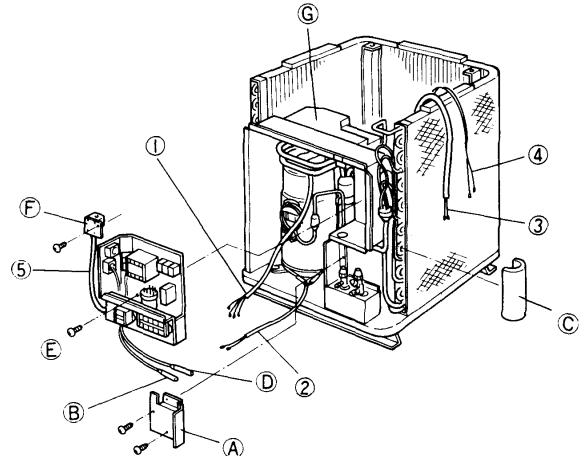

Fig. D-11
- ① Compressor wire
- ② Crankcase heater wire
- ③ Four-way reversing valve wire (SAP242CH only)
- ④ Pressure switch wire (SAP242CH only)
- ⑤ Solenoid valve wire
- 2) ① Remove the cover plate (A) and the sensor (B).
② Remove insulation (C). Loosen and remove the sensor (D) holder.
- 3) The electrical component box can now be removed by unscrewing one screw (E).
- 4) Loosen one screw of the mounting plate (F) fixing the solenoid valve to remove the cover (G). (See Figure D-11.)